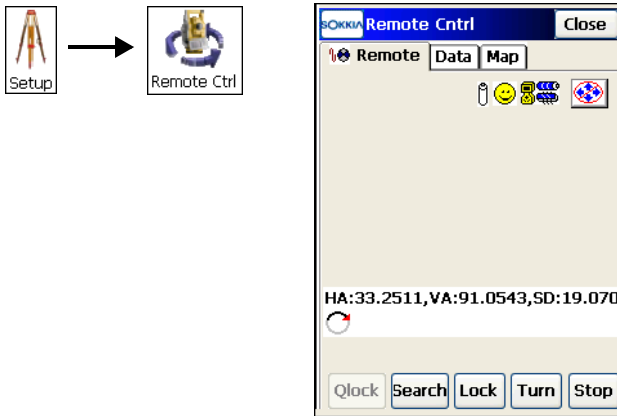

Figure 8-45. Remote Control
1. Tap **Setup** ▶ **Remote Control** (Figure 8-45).
2. On the *Remote Cntrl* screen, you can make the instrument search for the target (with the **Search** button), lock on the target (with the **Lock** button), stop rotating (with the **Stop** button) and rotate to a pre-defined angle (with the **Turn** button) (Figure 8-45).